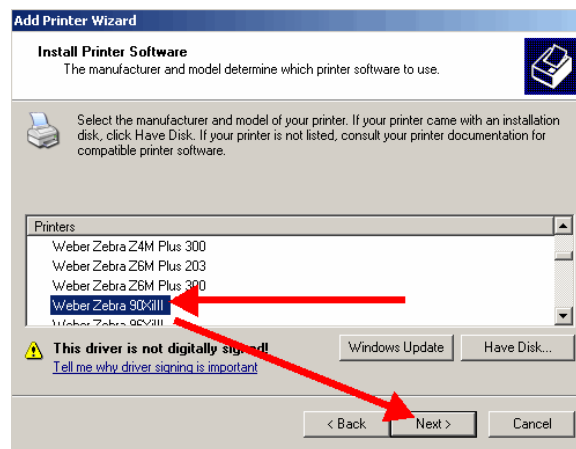

Figure 20
23. Scroll through the list of printers and highlight the model to install and click Next. (Figure 20)